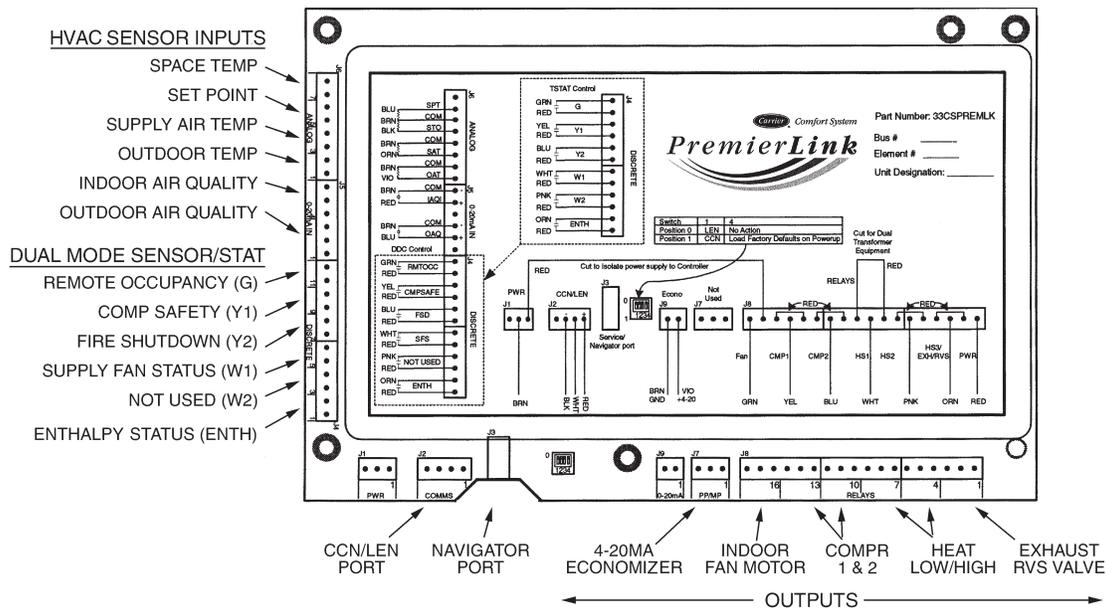

Fig. 40 - PremierLink Controller
The PremierLink controller (see Fig. 40) is compatible with Carrier Comfort Network® (CCN) devices. This control is designed to allow users the access and ability to change factory-defined settings, thus expanding the function of the standard unit control board. CCN service access tools include System Pilot (TM), Touch Pilot (TM) and Service Tool. (Standard tier display tools Navigator™ and Scrolling Marquee are not suitable for use with latest PremierLink controller (Version 2.x).)
Refer to Fig. 40 for PremierLink connection locations.